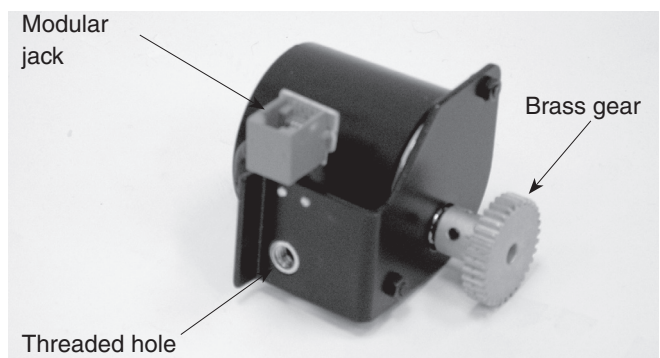
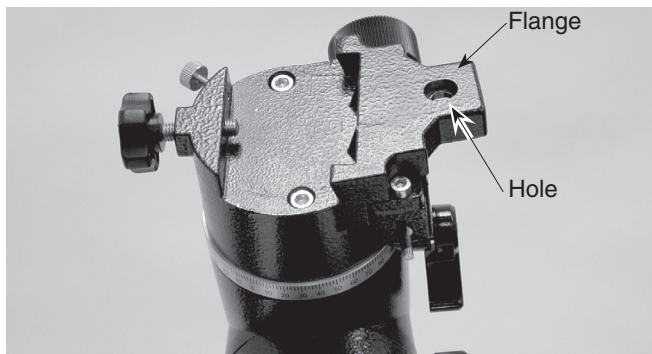
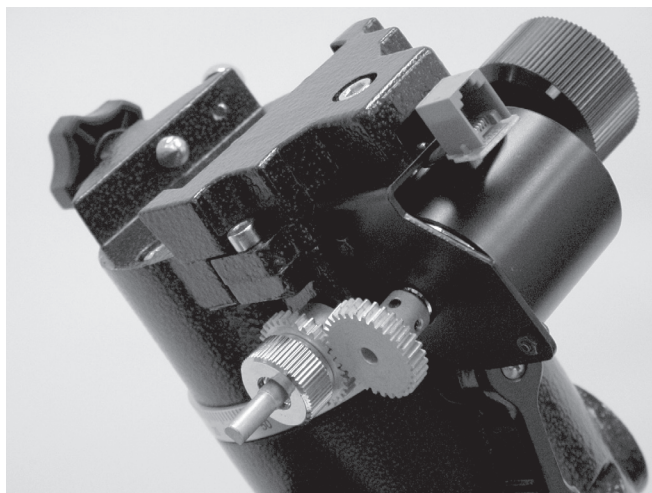

Figure 6. The Dec. motor assembly.
Figure 7. The location of the flange on the mount.
Figure 8. The assembled Dec. motor drive.
1. The Dec. motor assembly is identified by its black, cylindrical body (Figure 6). It is attached to the equatorial mount with the 5mm socket-head cap screw that goes through the hole in the flange at the top of the equatorial mount (Figure 7). The motor assembly should be attached so that it is oriented as shown in Figure 8. Hold the motor assembly so that its threaded hole lines up with the hole in the
When finished, the Dec. motor drive should resemble Figure 8.